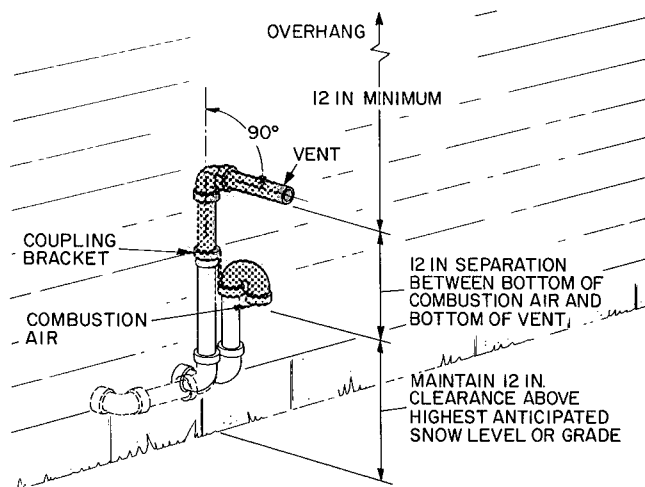

**Fig. 4 — Sidewall Vent Terminal Installation
Install kit as follows when combustion-air and vent pipes exit through sidewall less than 12 in. above highest anticipated snow level or grade (Fig. 4):
NOTE: The solid-line arrangement in Fig. 4 is preferred. The dashed-line arrangement shown is an option for the vent pipe only.
4. Loosely install U-fitting and bracket as shown in Fig. 4.
5. Loosely install vent-pipe assembly in coupling as shown in Fig. 4.
6. Check required dimensions as shown in Fig. 4.
8. Install bracket as shown in Fig. 4.